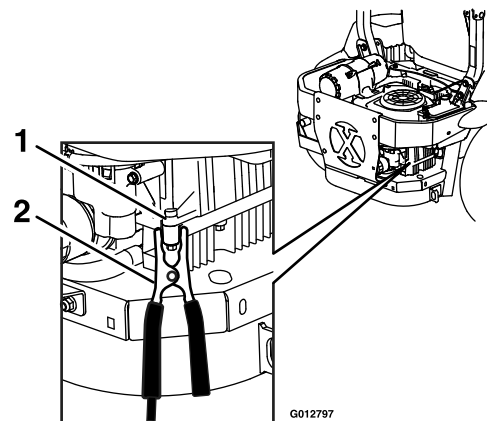

Figure 24
6. MAKE THE FINAL CONNECTION ON THE ENGINE BLOCK OF THE STALLED VEHICLE (NOT TO THE NEGATIVE POST) AWAY FROM THE BATTERY. STAND BACK (see Figure 24).